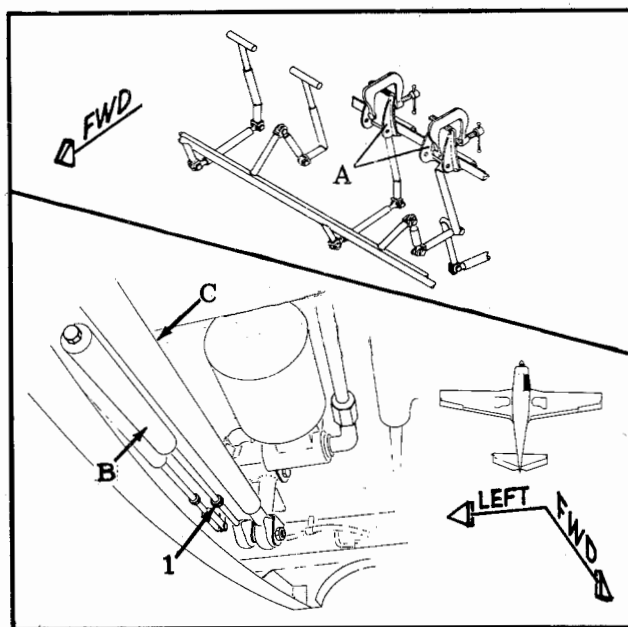

Figure 6-8. Rudder Pedal Alignment
- Clamp pilot's rudder pedals (A), Figure 6-8, in neutral position.
- Adjust trim assist bungee (B), Figure 6-8, at rod-end bearing adjustment (1) in left exhaust cavity to neutral (zero spring travel).